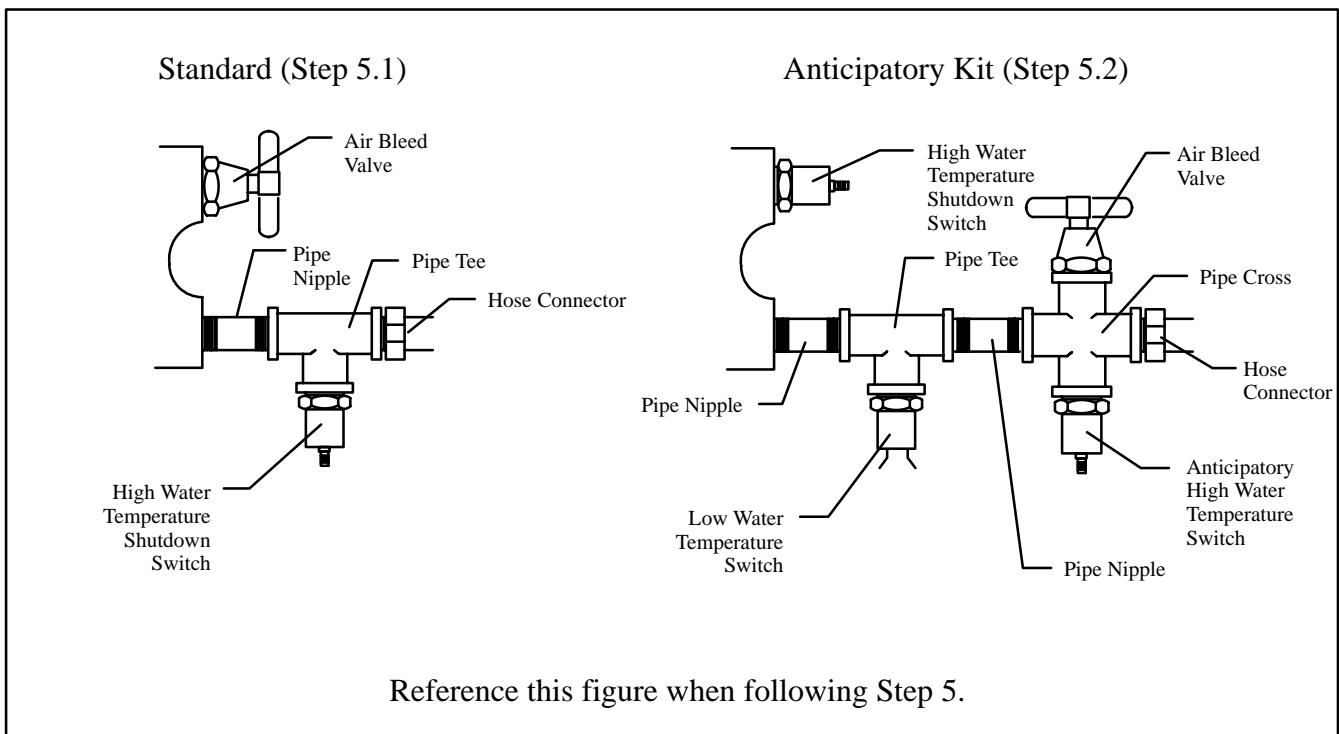

Figure 3.
When switches are configured as shown in Figure 3, follow Step 5.
5.1 Relocating switches (**for units without anticipatory alarm kit**). See Figure 3.
- 5.2 Relocating switches (**for units with anticipatory alarm kit**). See Figure 3.